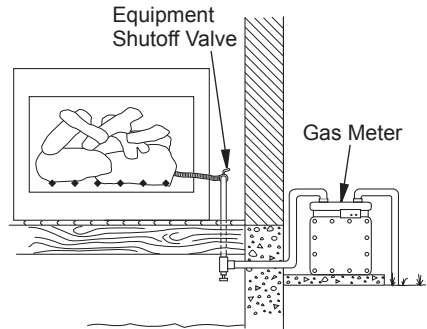

Figure 6 - Checking Gas Joints
3. Check all joints from gas meter to equipment shutoff valve (see Figure 6). Apply noncorrosive leak detection fluid to all joints. Bubbles forming show a leak.